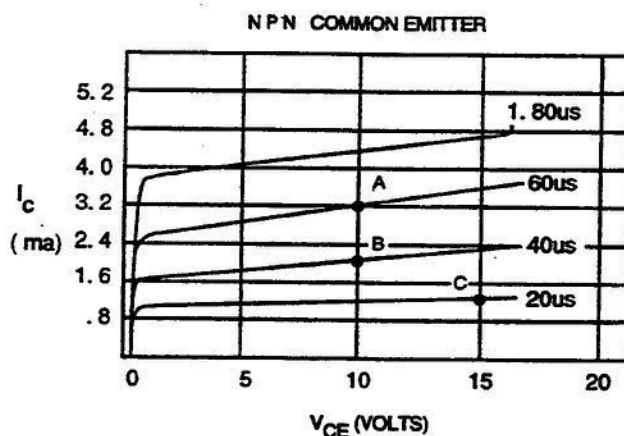

Figure 3-24. CD (NPN) characteristic curves.
are similar to the common-emitter (CE) NPN chart shown in figure 3-24. The curves plot collector current against collector voltage with the base current at a fixed value. The horizontal axis in the figure represents the output voltage,  $V_{CE}$  (the collector-emitter voltage). The vertical axis represents the collector current,  $I_C$ . The curves on the chart represent various input currents,  $I_B$  (the base current in a CE amplifier).